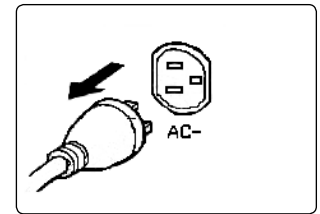

fig.12
6.4.3. Disconnect any electrical devices fig.12.